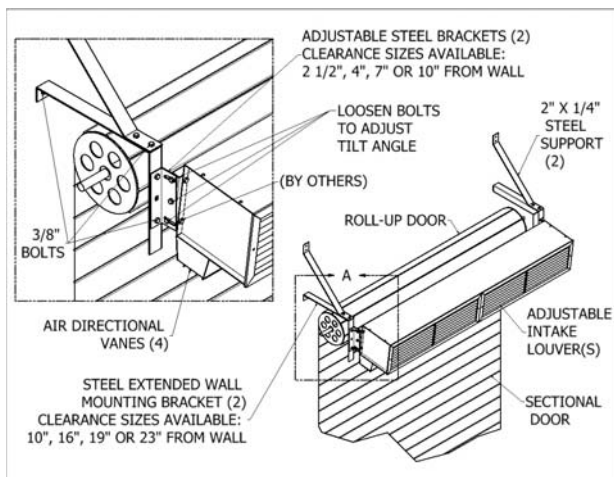

FIG. 6 (STD Shown)
2. Adjustable Mounting Brackets: For installation of air curtain over drum-style roll-up door, use Extended Wall Mounting Brackets. (FIG. 6)